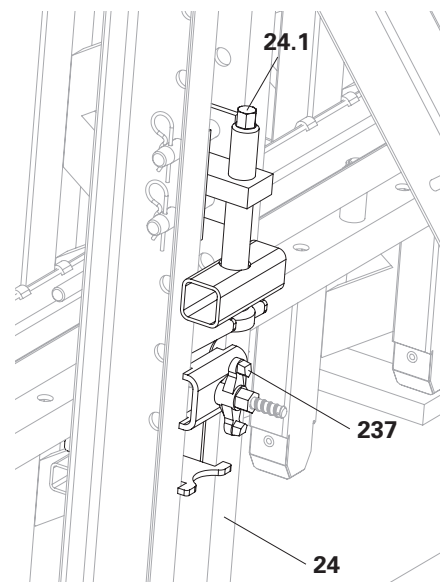

Fig. C5.05
1. Loosen Wing Nuts DW 15 (237).
3. Tighten Wing Nuts DW 15 (237).
- The adjustment of the two Adjustable Spindles ACS is done one after the other. (Fig. C5.05)
2. Move the formwork with the lever against the strongback (24).
3. Tighten Wing Nuts DW 15 (237). (Fig. C5.05)